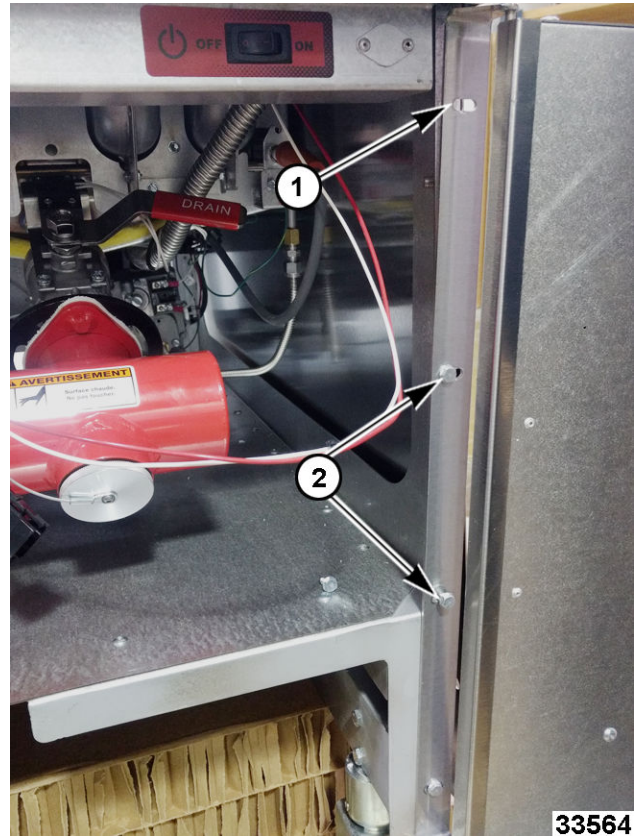

Fig. 33
5. Remove top door mounting screw (1, Fig. 33) and loosen two screws (2, Fig. 33) below.